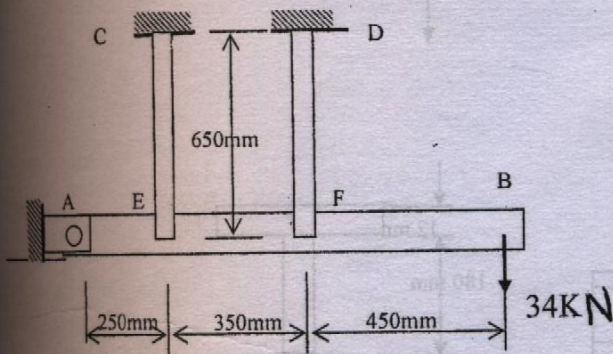

Fig. 2
- 2- The 14 mm diameter rod CE and the 18 mm diameter rod DF are attached to the rigid bar AEFB as shown. Knowing that the rods are made of aluminum ( $E=70$  GPa), determine (a) the force in each rod caused by the loading shown, (b) the corresponding tensile stresses in rods. Fig. 2